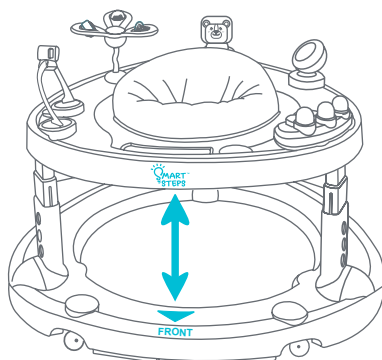

Fig. 8a
- Ensure the seat is aligned with the front tray and front of the base (Fig. 8a).